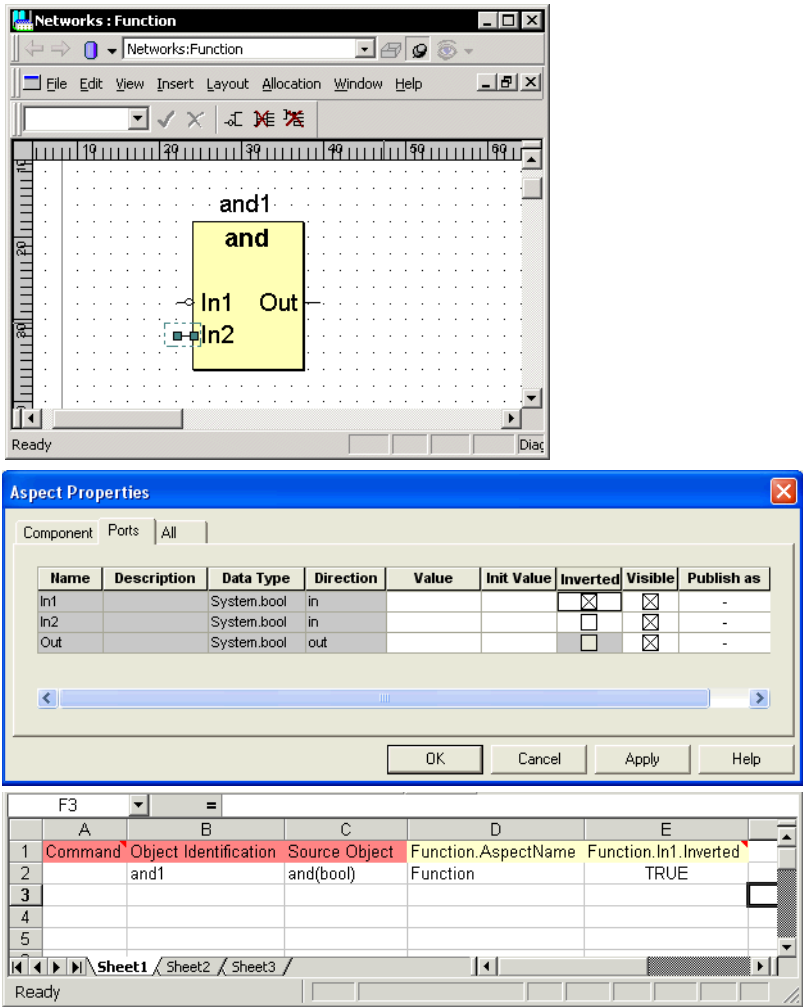

Figure 46. Inversion of Boolean Inputs
- Update inversion properties in Bulk Data Manager, see Figure 46.